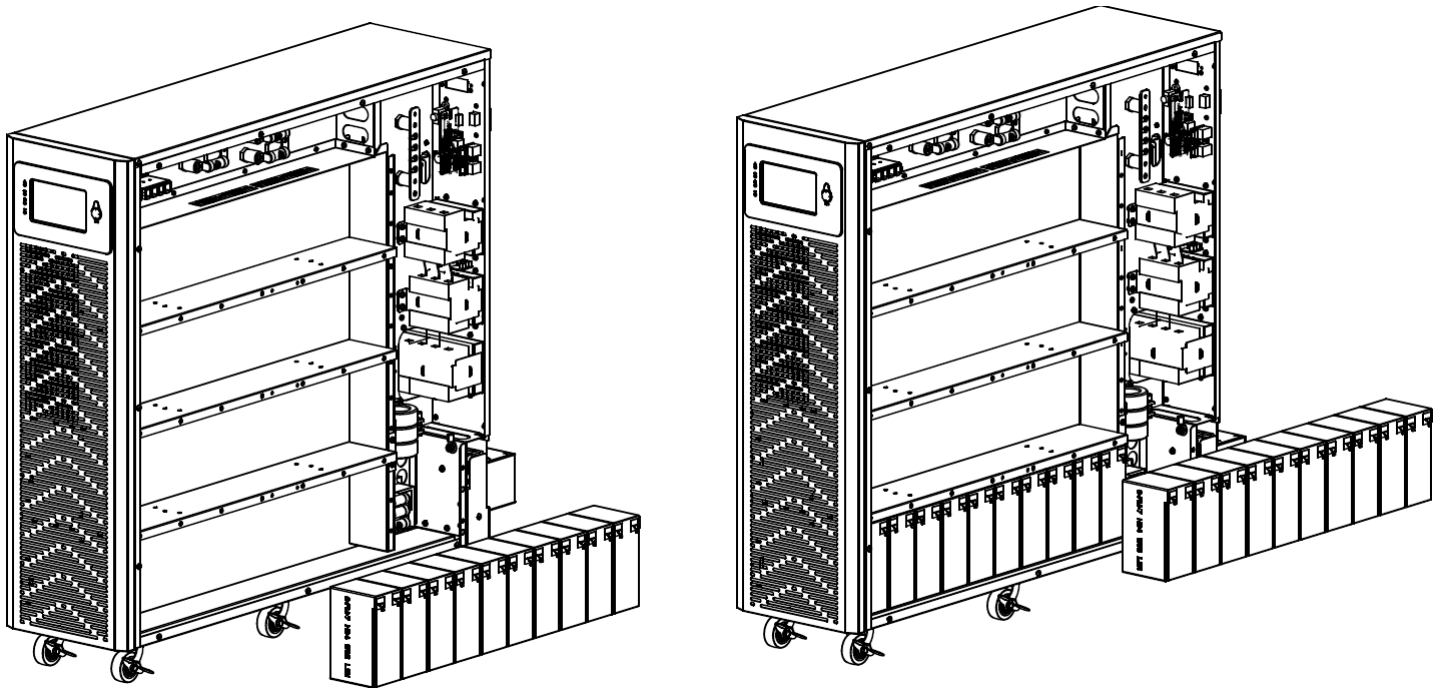

Figure 3-9: Install batteries on the first and second shelves on the right side.
4. Working from the bottom up, install 10 batteries on the first and second shelves on the right side of the unit (Figure 3-9). Always keep the terminal side of all batteries facing up.